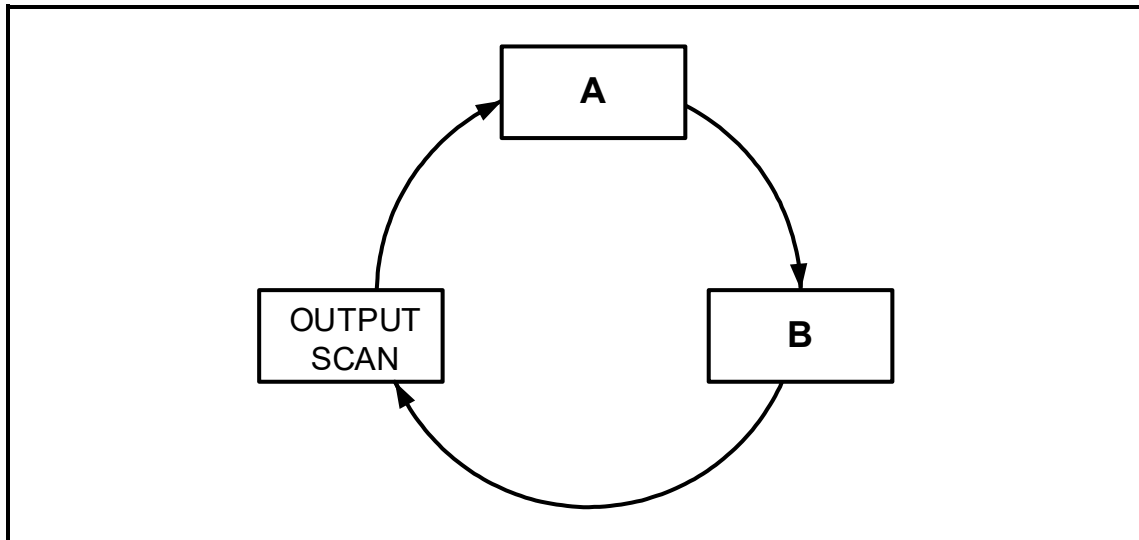

FIGURE 7.1: PLC SCAN CYCLE
- 7.1 Refer to FIGURE 7.1 below of the programmed scan cycle of a PLC and answer the questions that follow.